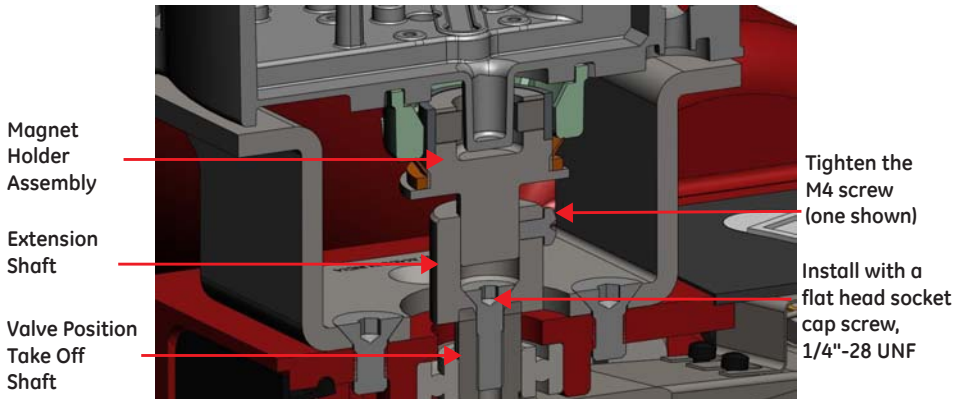

Figure 10 Extension Shaft to the Valve Position Take-off Shaft
2. Bolt the extension shaft to the valve position take-off shaft (Figure 10).